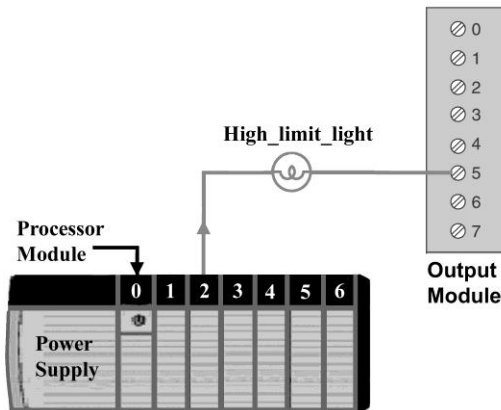

Figure 15-7 Tag-based address for question 8.
8. The physical address for the tag High_limit_light of Figure 15-7 would be 8. _____